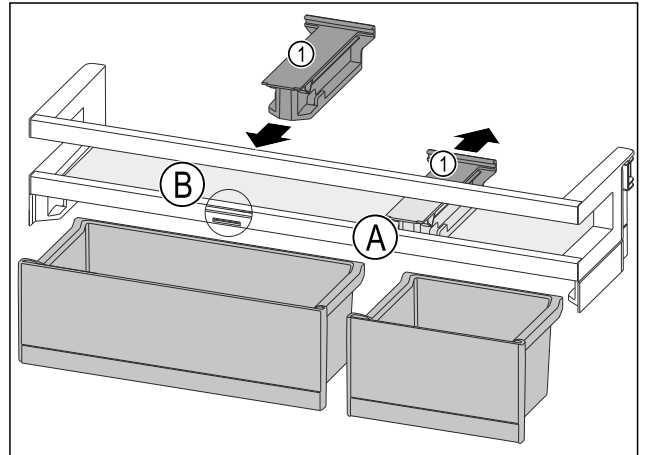

Fig. 122
- ▶ Take off the holding part Fig. 122 (1) in position Fig. 122 (A) backwards.
- ▶ Insert the holding part Fig. 122 (1) in position Fig. 122 (B).